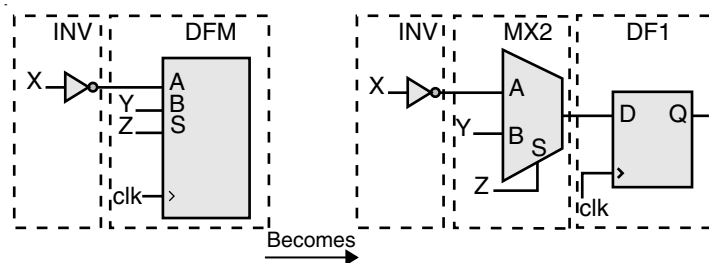

Figure 4-3. Complex Macros Divided
1. **It divides complex sequential library macros into basic combinatorial and sequential macros.** For example, a D-type flip-flop with 2-input multiplexed data “DFM” remaps into a 2 to 1 multiplexor “MX2” and a D-type flip-flop “DF1.” The total number of logic modules has temporarily increased from one combinatorial and one sequential module to two combinatorial and one sequential module, shown in Figure 4-3.